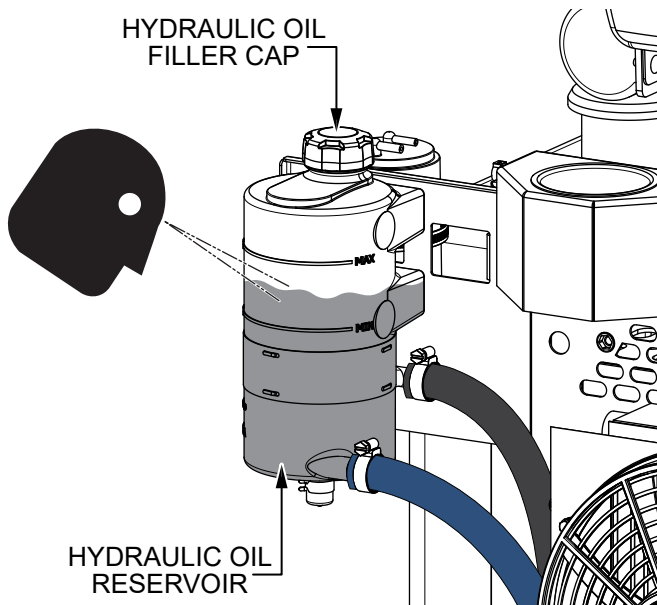

Figure 16. Hydraulic Oil Level Inspection
- If the hydraulic oil level is low, remove the **hydraulic oil filler cap** (Figure 16), and add hydraulic oil up to a level midway between the **MIN** and **MAX** lines on the reservoir. **DO NOT** overfill. Refer to Table 2 for suitable hydraulic oil types. Replace the filler cap when finished.